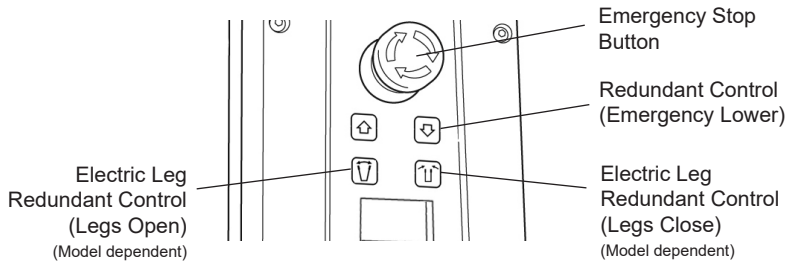

Fig. 8
6. Clip the battery onto the control box and ensure the red emergency stop button, located on the controller is in the out (ON) position by turning clockwise (Fig. 8).